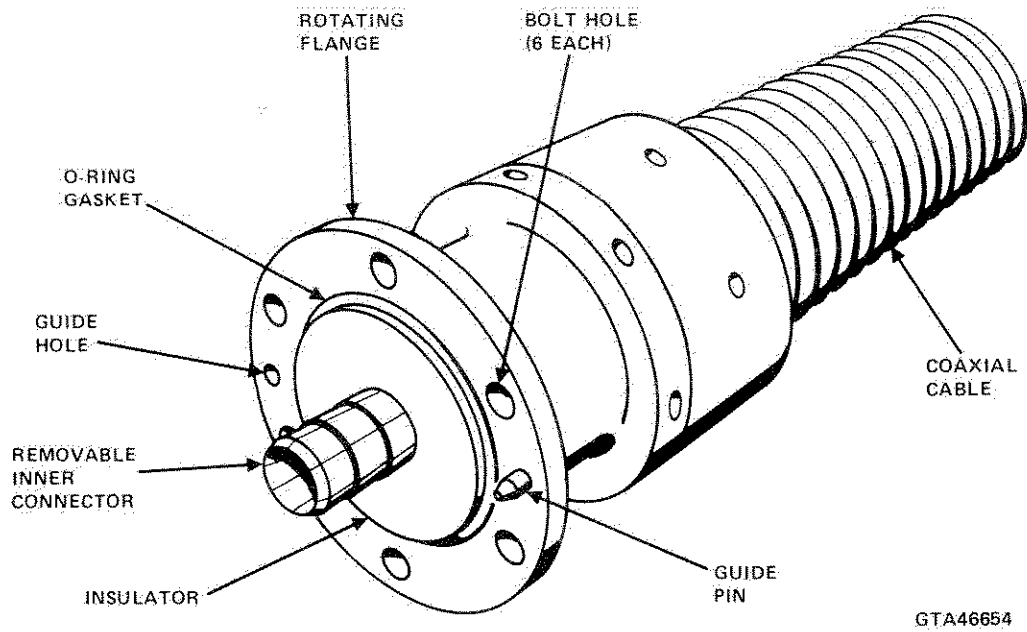
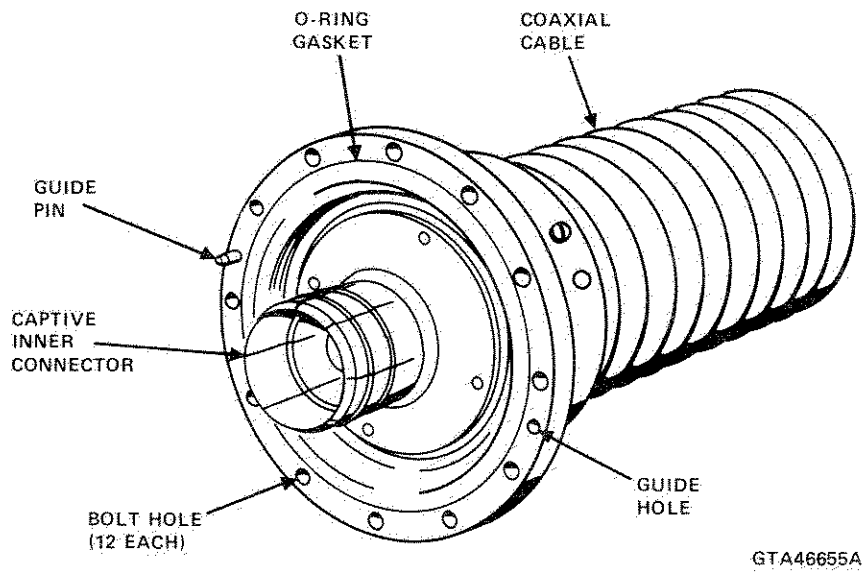

Figure 6-23. Transmission Line with 3 1/8 Inch Connector
Figure 6-24. Transmit Line with 6 1/8 Inch Connector
Flanges on 3 1/8 inch connectors (Figure 6-23) require 6 bolts, lockwashers, and nuts and 6 flat washers. Flanges on 6 1/8 inch connectors (Figure 6-24) require 12 bolts, lockwashers, and nuts and 12 flat washers.
5. Remove bolts, lockwashers, flat washers, and nuts (Figures 6-23 and 6-24) that secure